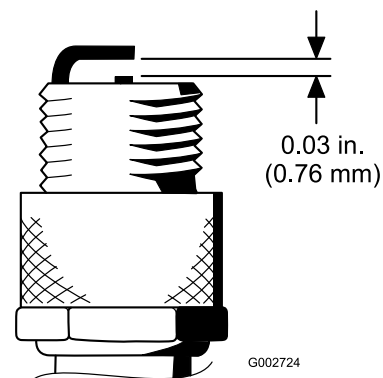

Figure 39
4. Set the air gap between the center and side of the electrodes at 0.76 mm (0.030 inch) as shown in Figure 39.